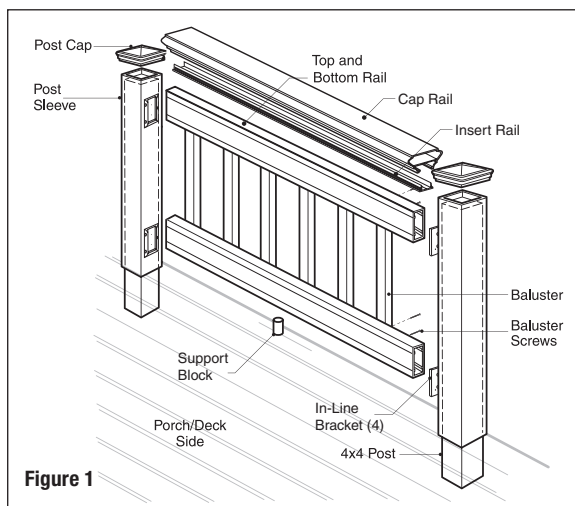

Figure 1
Step 6 Measure the distance between installed post sleeves to determine the length of the top and bottom rails (**Figure 1**). The distance between the post and first baluster should be less than 4" and equal on both ends (**Figure 4a and 4b**). Remove an additional 1/4" on both ends (1/2" overall) for the bracket to fit between the rail and post. Trim the top and bottom rails to length.
Step 9 A support block is needed at the center of each rail. Cut the support block to the proper height. Attach to the bottom of the lower rail (**refer to Figure 1**). Find the center of the rail and pre-drill using a 1/8" drill bit. Attach the support block connector using the included screw. Mark the location of the support block on the deck surface and attach the other support block connector to the deck using the included screw. Install the bottom rail between the posts. Using the brackets as a guide, pre-drill each screw hole using a 1/8" drill bit and attach each end to brackets using two 1" long screws. **Tip:** Use a driver extension bit to avoid marring the rail or post sleeve with the drill chuck.
Step 7 A support block is needed at the center of each rail. Cut the support block to desired height. Attach to the bottom of the lower rail (refer to **Figure 1**). Find the center of the rail and pre-drill using a 1/8" drill bit. Attach the support block connector using the included screw. Mark the location of the support block on the step tread and attach the other support block connector to the step tread using the included screw.